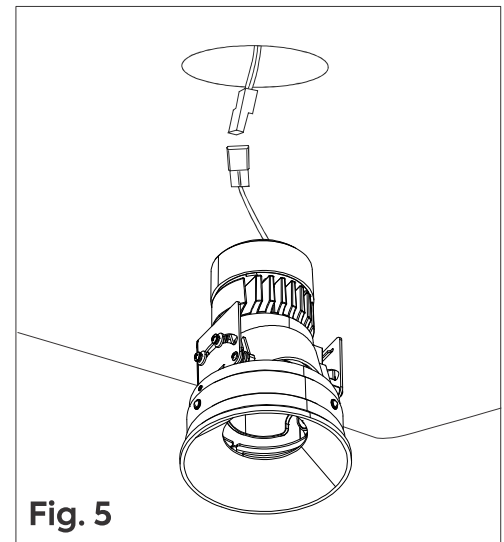

Fig. 5
Step 6: Mate the connector on the ELIUM® LED Module with the connector coming from the housing **Fig. 5**.